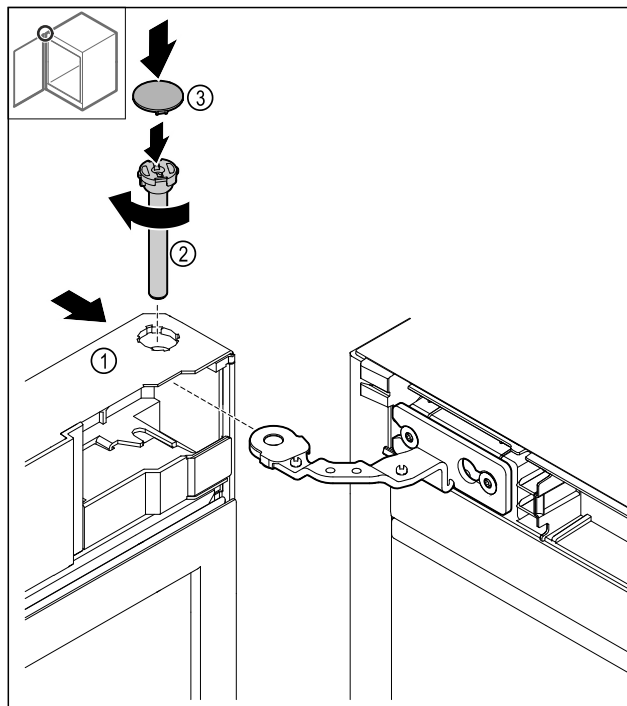

Fig. 46
- Slide the door Fig. 46 (1) onto the top hinge.
- Insert the bolt Fig. 46 (2) and turn it clockwise to tighten.
- Put on the cover Fig. 46 (3).